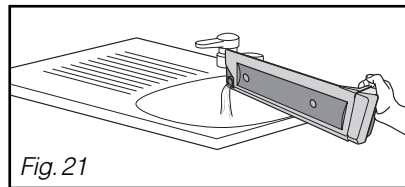

Fig. 21
- Empty the tank or recover the condensation container (Fig. 21).